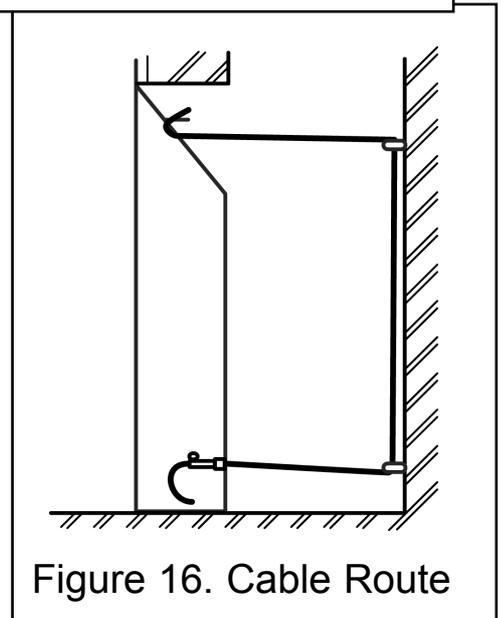

Figure 16. Cable Route
6. Thread the cables through the eyebolts. Return the cables through the holes near the bottom of the hotbox side panels - See figure 16